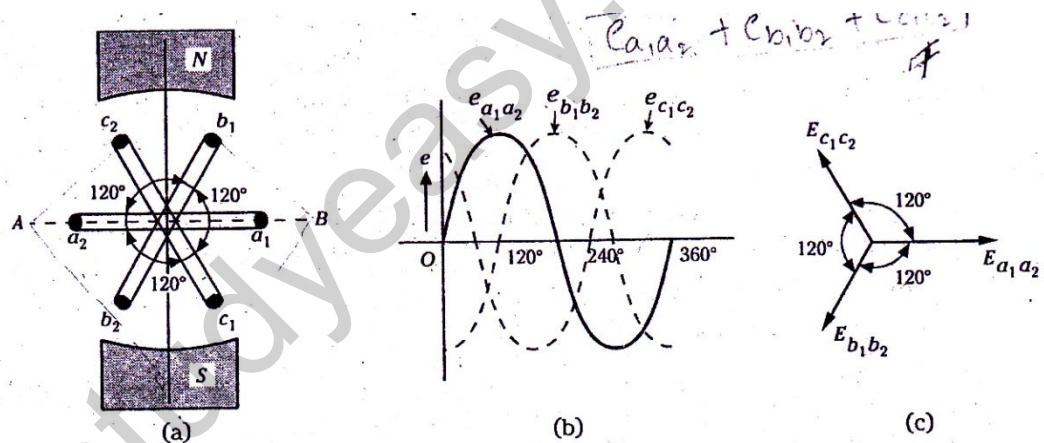

Fig. 3.80
Consider three electrical coils  $a_1a_2$ ,  $b_1b_2$  and  $c_1c_2$  mounted on the same axis but displaced from each other by  $120^\circ$  electrical. Let the three coils be rotated in an anticlockwise direction in a bipolar magnetic field with an angular velocity of  $\omega$  radians/sec, as shown in Fig. 3.80. Here,  $a_1$ ,  $b_1$  and  $c_1$  are the start terminals and  $a_2$ ,  $b_2$  and  $c_2$  are the end terminals of the coils.
When the coil  $a_1a_2$  is in the position AB shown in Fig. 3.80, the magnitude and direction of the e.m.f. s induced in the various coils is as under:
- E.m.f. induced in coil  $a_1a_2$  is zero and is increasing in the positive direction. This is indicated by  $e_{a_1a_2}$  wave in Fig. 3.80 (b).
**Vector Diagram:** The r.m.s. values of the three phase voltage are shown vectorially in Fig. 3.80(c).
The order in which the voltages in the phases reach their maximum positive values is called the phase sequence. For example, in Fig. 3.80(a), the three coils  $a_1 a_2$ ,  $b_1 b_2$  and  $c_1 c_2$  are rotating in anticlockwise direction in the magnetic field. The coil  $a_1 a_2$  is  $120^\circ$  electrical ahead of coil  $b_1 b_2$  and  $240^\circ$  electrical ahead of coil  $c_1 c_2$ . Therefore, e.m.f. in coil  $a_1 a_2$  leads the e.m.f. in coil  $b_1 b_2$  by  $120^\circ$  and that in coil  $c_1 c_2$  by  $240^\circ$ . It is evident from Fig. 3.80(b) that  $e_{a_1 a_2}$  attains maximum positive first, then  $e_{b_1 b_2}$  and  $e_{c_1 c_2}$ . In other words, the order in which the e.m.f. s in the three phases  $a_1 a_2$ ,  $b_1 b_2$  and  $c_1 c_2$  attain their maximum positive values is a,b,c. Hence, the phase sequence is a,b,c.